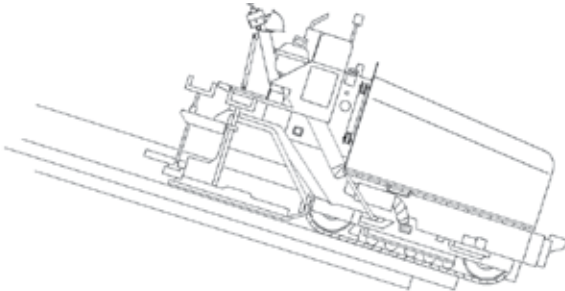

Figure 4-46. Correct Unloading
5. Move paver forward down the ramp as shown (Figure 4-46).